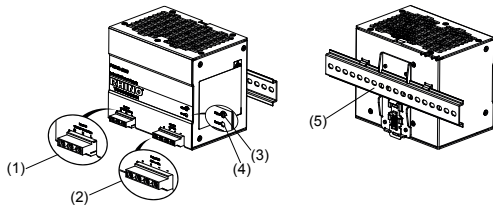
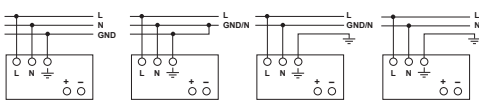

Figure 1
Figure 5
2. Device description (Fig. 1)
5.1. Input connection (Fig. 1 (1), Fig. 5)
Use L, N and GND connections of input terminal connector (see Fig. 1 (1)) to establish the 100-240 VAC connection.
5.2. Output connection (Fig. 1 (2))
Use the "+" and "-" screw connections to establish the 48 VDC connection. The output provides 48 VDC. The output voltage can be adjusted from 48 to 56 VDC on the potentiometer. The green LED DC OK displays correct function of the output (Fig. 1 (4)). The device has a short circuit and overload protection and an overvoltage protection limited to 57 VDC.